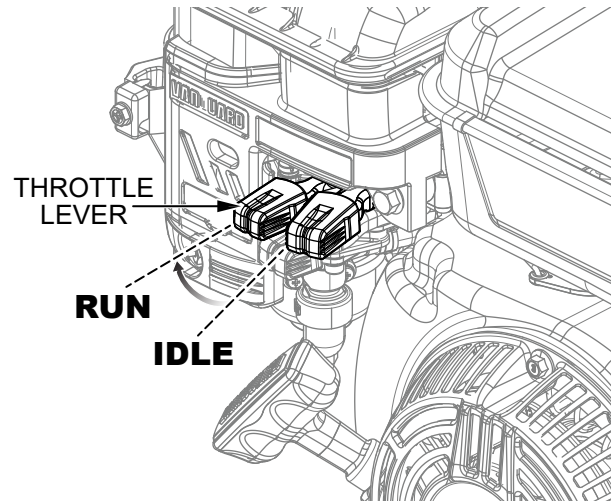

Figure 12. Throttle Lever (Run)
7. To begin pumping, place the **engine throttle lever** (Figure 12) in the **RUN** position.